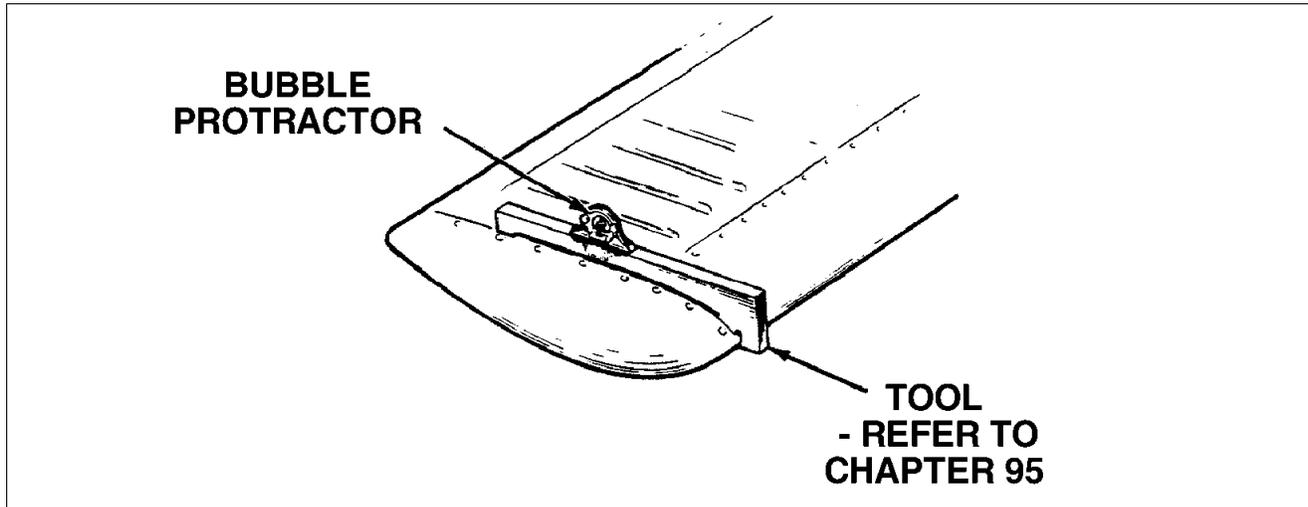

Figure 27-25. Stabilator Rigging
F. Stabilator Trim Rigging and Adjustment (Refer to Figure 27-25.)